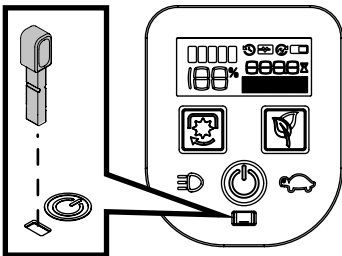

Figure 16
- 2. Key Switch** - The key switch is located in the center of the VCM and powers the VCM when the key is fully inserted. The tractor cannot be started unless the key is fully inserted and the START/STOP button is depressed. Removing the key turns the tractor off (Figure 16).